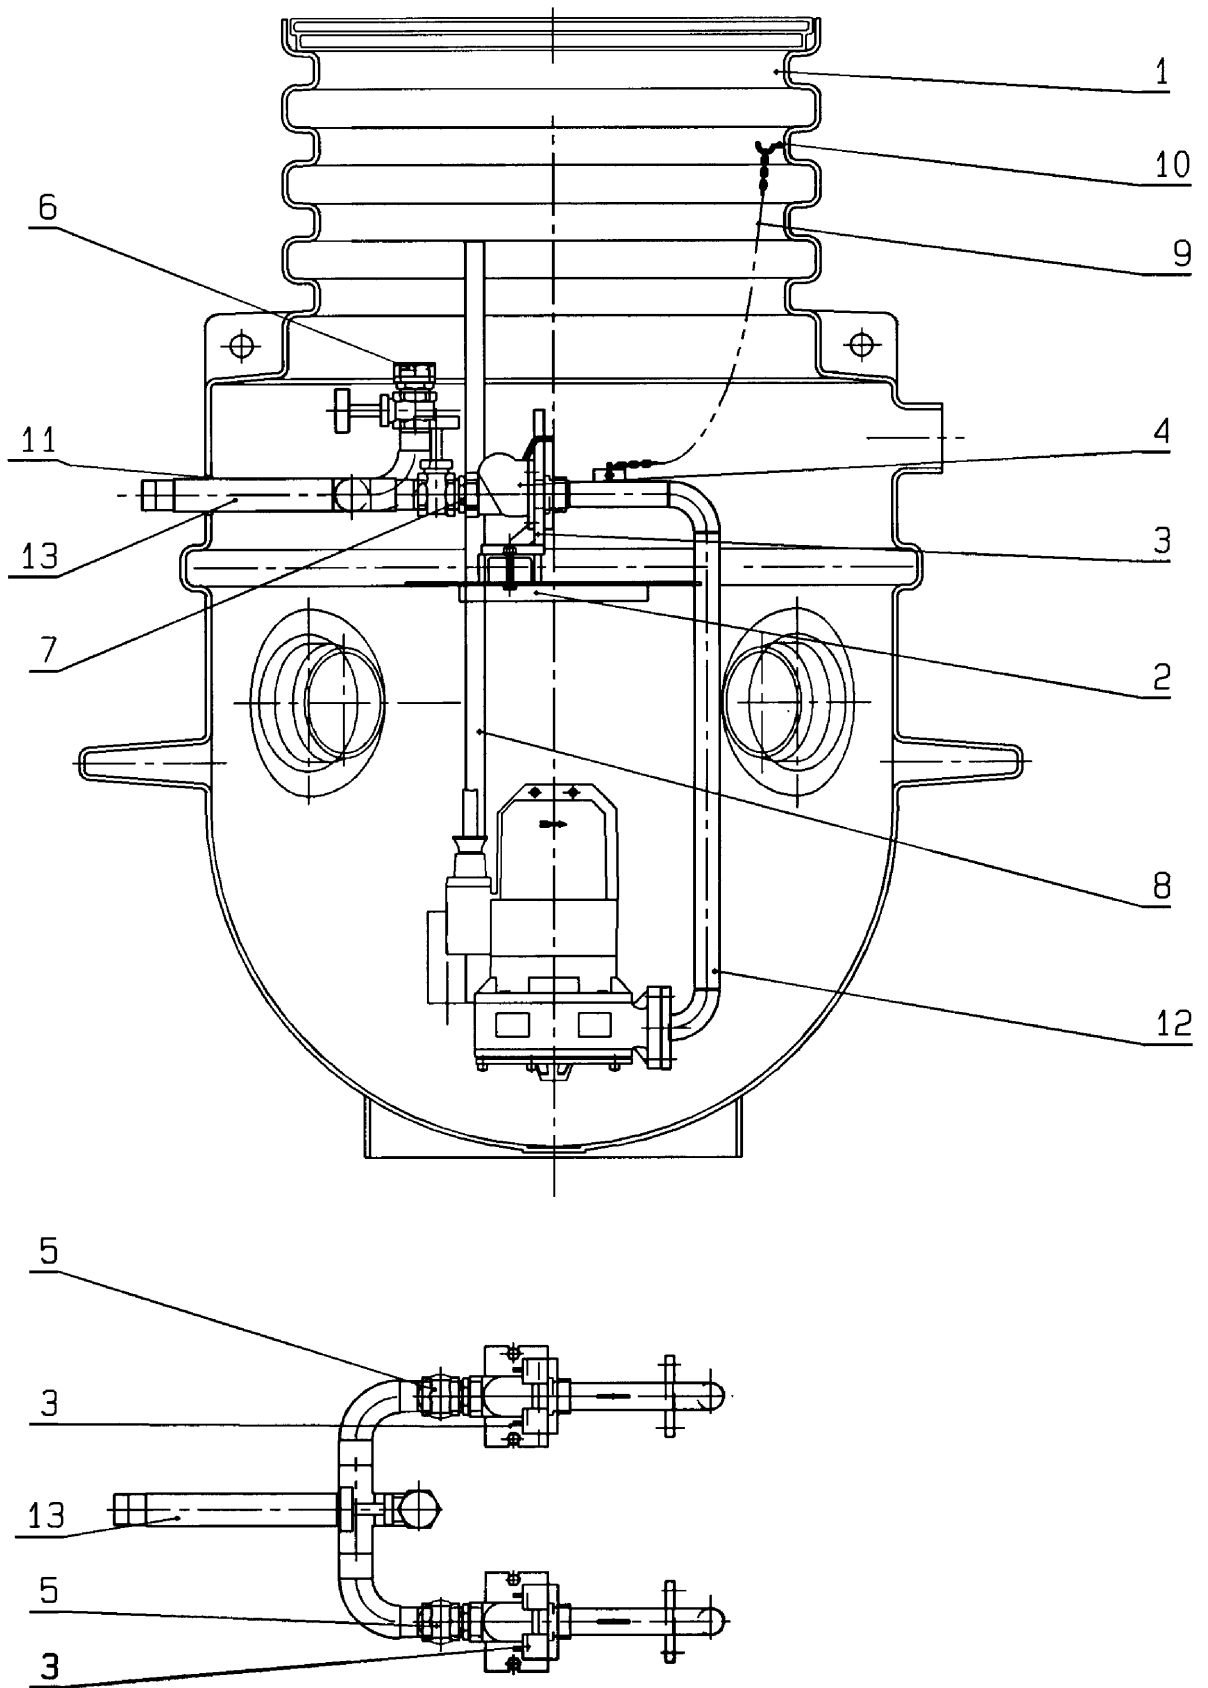

Fig. 2
The unit comprises a plastic shaft made of PE (Fig. 1, pos. 1). This shaft is available in two sizes: WS 900 E for single pumps (Fig. 1), WS 1100 E/D for large single or double pumps (Fig. 2). The hole-shaped form of a part of the shaft walls and the "fins" prevent the lifting of the pump. The following components are assembled in the shaft for the connection of one or two submersible motor-driven pumps: